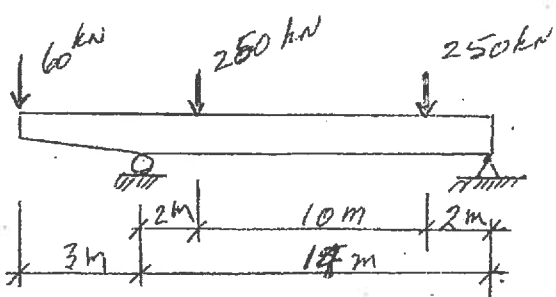

FIGURE 3
7. The prestressed concrete girder in Figure 3 is to be post-tensioned.